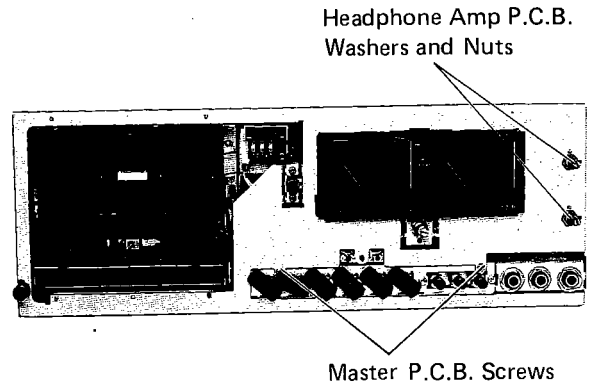

Figure 5
- (1) Remove two screws from the front chassis and two rivets from the rear cover as shown in Figures 5 and 6.
- (1) Remove two nuts and two washers from the front chassis as shown in Figure 5.
- (2) Disconnect all wires from the P.C.B..